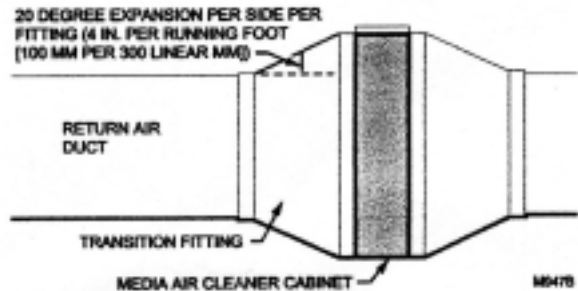

Fig. 11. Duct size changed gradually to prevent turbulence.
1. Use gradual transitions to reduce air turbulence and increase efficiency. See Fig. 11.